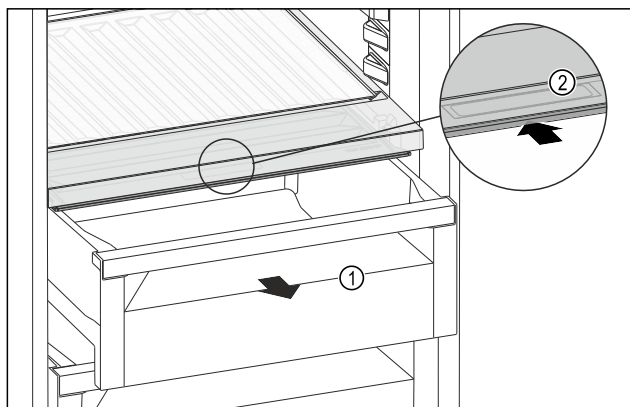

Fig. 123
- Pull out the drawer Fig. 123 (1).
- Grasp the recessed grip Fig. 123 (2) on the compartment lid and push the compartment lid backwards at the same time.